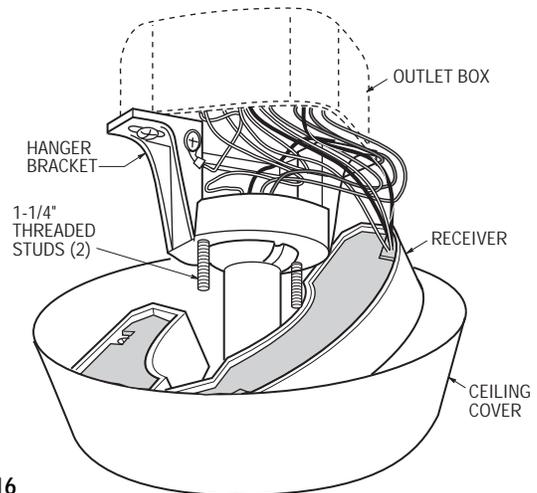

Figure 16
- 1. Screw the two 1-1/4" threaded studs (supplied) into the tapped holes in the hanger bracket (Figure 16).